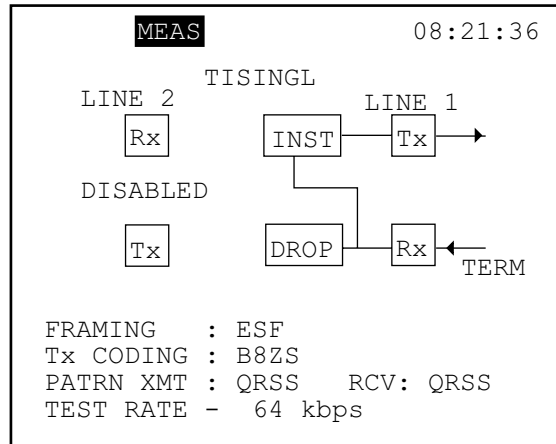

Figure 4 T1SINGL
7. Press the GRAPHIC key on the keypad and refer to Figure 4.